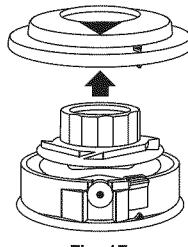

Fig. 17
- Remove the spool cover (Fig. 17).